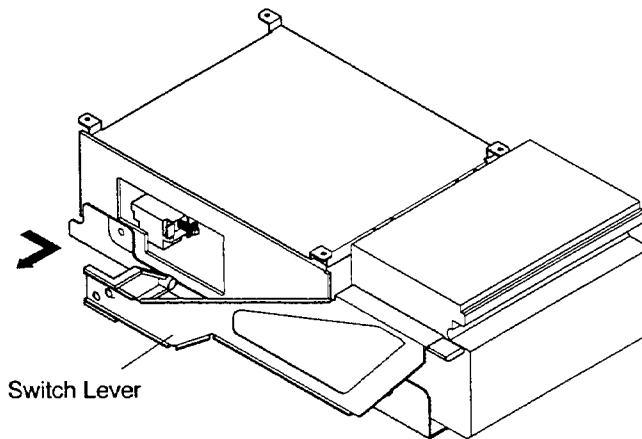
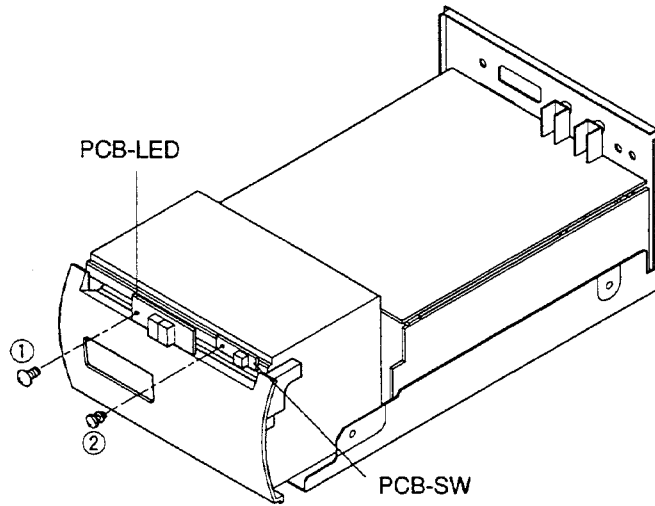

Fig. 4
Fig. 7
2. Remove the Switch Lever shown in Fig. 4 in the direction of the arrow.
2. Remove one screw (①) securing the PCB-LED shown in Fig. 7 and remove the PCB-LED.
3. Remove one screw (②) securing the PCB-SW shown in Fig. 7 and remove the PCB-SW.
1. Remove the Top Panel Assy, the Front Panel Unit, the Door, the Switch Lever, the PCB-LED and the PCB-SW. (Fig. 1, Fig. 2, Fig. 4, Fig. 7)
1. Remove the Top Panel Assy, the Front Panel Unit, the Switch Lever, the PCB-LED and the PCB-SW. (Fig. 1, Fig. 4, Fig. 7)